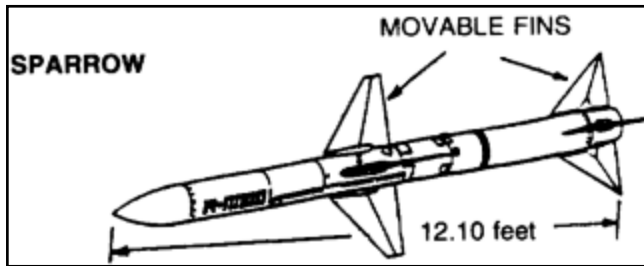

Figure 093-401-5040-7b.
- (e) Rifle Grenades (figures 093-401-5040-8a through 093-401-5040-8b):